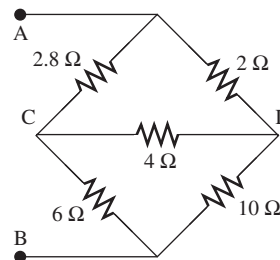

FIGURE P3.13 Bridge circuit.
3.13 (H)* Find R_{AB} in Figure P3.13 using Δ -Y transformation shown in Problem 3.12.